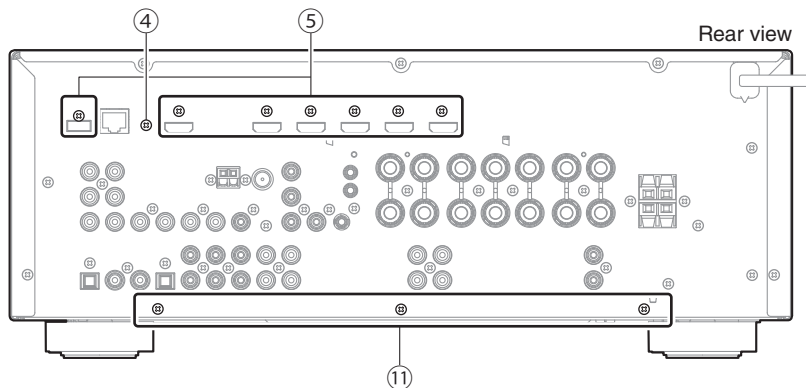

Fig. 3
3. Removal of DIGITAL (1) P.C.B.
- a. Remove screw (④) and 7 screws (⑤). (Fig. 3)
- b. Remove 3 screws (⑪). (Fig. 3)